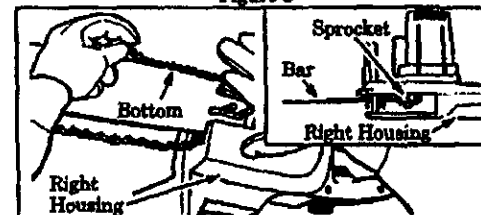

Figure 9
- Slide the chain between the right housing and the sprocket. Figure 9 (inset). Place chain around the sprocket and fit the drive links into the guide bar grooves -- first the bottom groove and then the top groove, and then around guide bar nose. Figure 9.